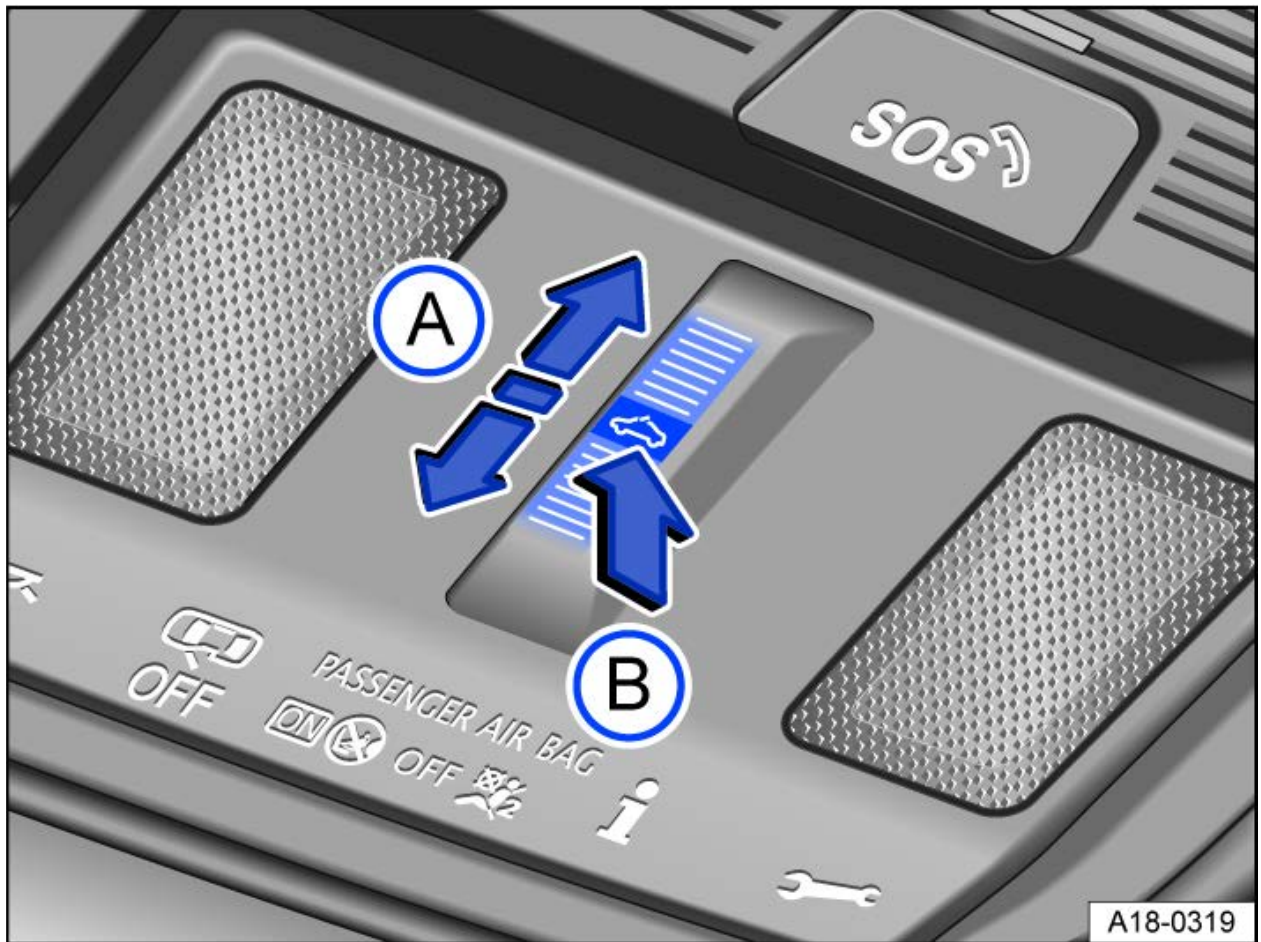

Fig. 1 In the headliner: Function key for the tilting and sliding panoramic sunroof.
— Automatic process: Swipe back on the function key  → *fig. 1* (A).
— Automatic process: Swipe forwards on the function key  → *fig. 1* (A).
Automatic process: Briefly press the center of the key  → *fig. 1* (B).
— Automatic process: Swipe forwards on the function key  → *fig. 1* **(A)** or
Briefly press the center of the key  → *fig. 1* **(B)**.